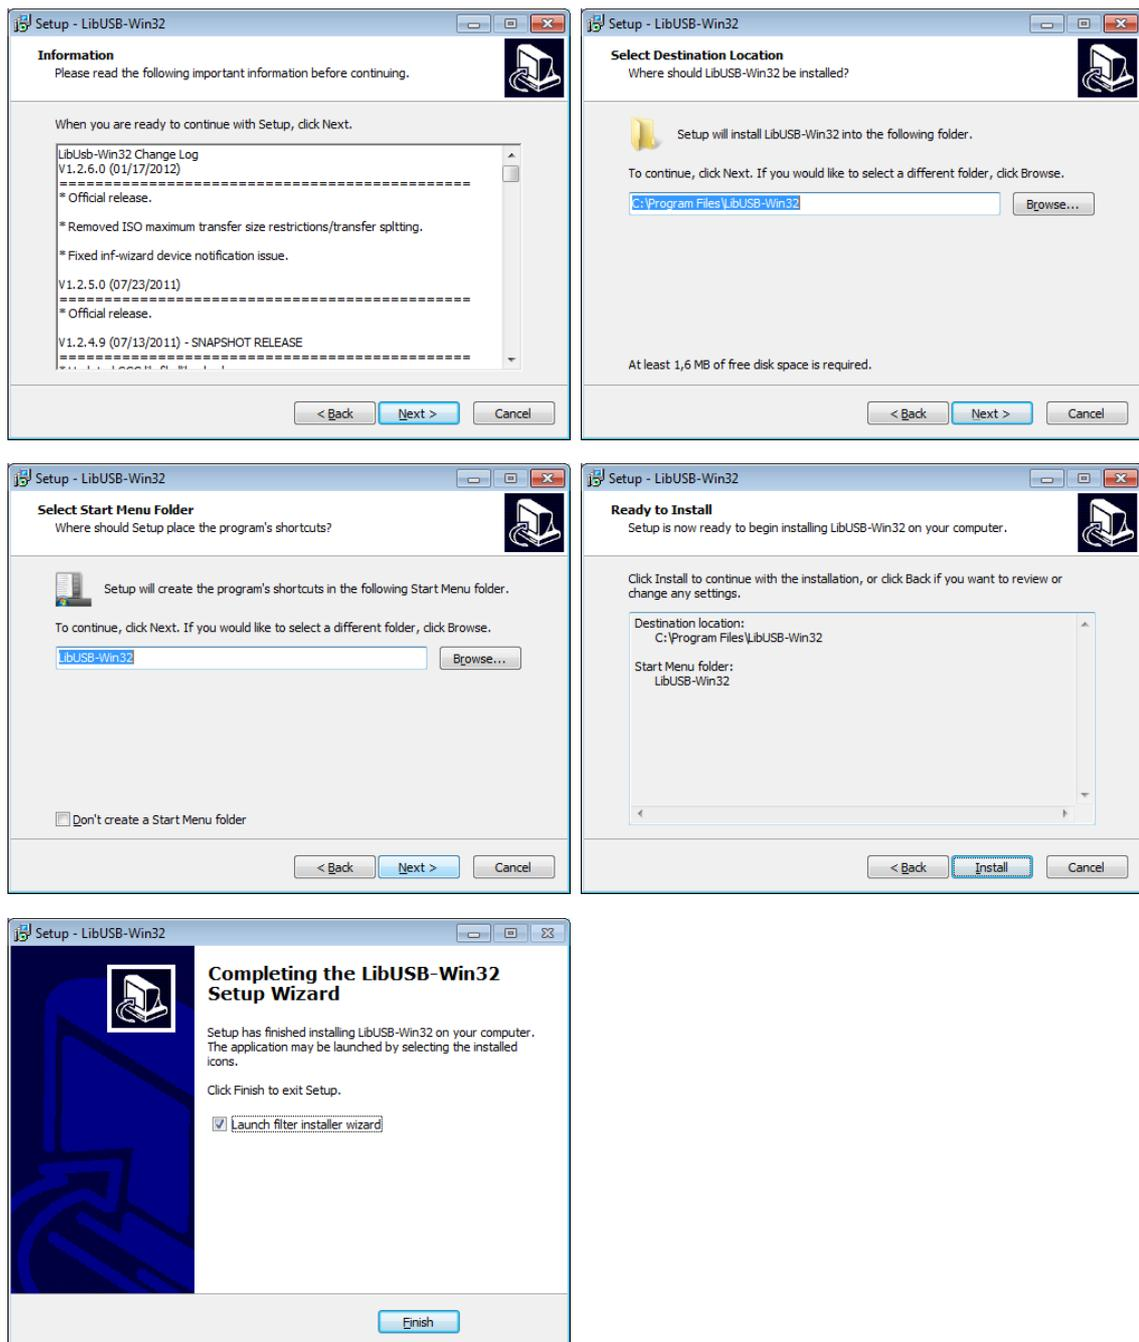

Figure 4.1.
2. Then run `libusb-win32-devel-filter-1.2.6.0.exe`, which can be found in the folder `'<grmon-win32>/share/grmon/'`, where `grmon-win32` is the path to the extracted win32 folder from the the GRMON archive. This will install the `libusb` filter driver tools. Step through the installer dialog boxes as seen in Figure 4.1 until the last dialog.